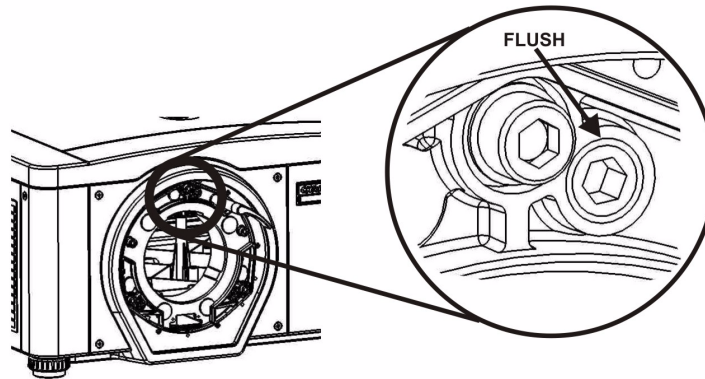

FIGURE 2-17 - POSITION SETSCREW FLUSH
9. The original factory boresight can be recovered approximately by positioning the 3 setscrews, see *Figure 2-16 - Screw Locations*. Position the setscrews flush with the front face of the lens mount plate and in contact with the inner lens mount plate, see below *Figure 2-17 - Position Setscrew Flush*. This may require adjusting both setscrews and capscrews.